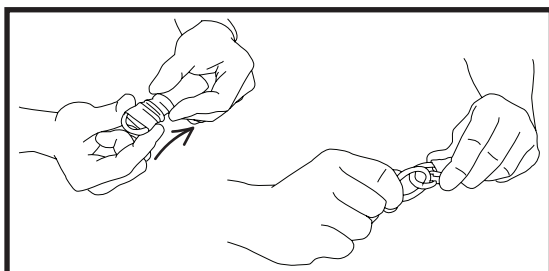

Fig. 15
16. Fasten the carabiner attached to the end of the pole to the ring sewn inside the tip of the tent (Fig. 15).